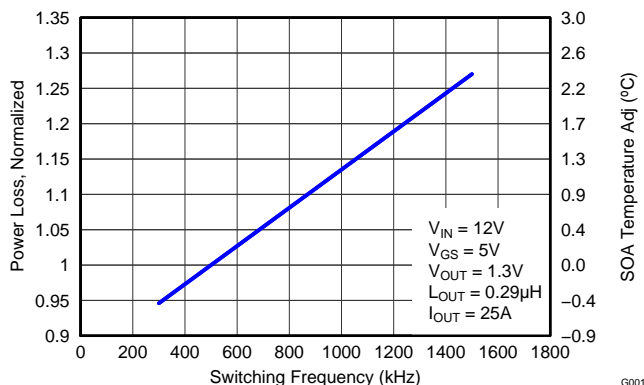

Figure 5. Normalized Power Loss vs Switching Frequency
- Normalized Power Loss for switching frequency ≈ 1.08 (Figure 5)
- SOA adjustment for switching frequency $\approx 0.7^\circ\text{C}$ (Figure 5)
- The placement of the input capacitors relative to VIN and PGND pins of CSD87588N device should have the highest priority during the component placement routine. It is critical to minimize these node lengths. As such, ceramic input capacitors need to be placed as close as possible to the VIN and PGND pins (see Figure 5). The example in Figure 5 uses $1 \times 10\text{nF}$ 0402 25V and $4 \times 10\mu\text{F}$ 1206 25V ceramic capacitors (TDK Part # C3216X5R1C106KT or equivalent). Notice there are ceramic capacitors on both sides of the board with an appropriate amount of vias interconnecting both layers. In terms of priority of placement next to the Power Stage C21, C5, C8, C19, and C18 should follow in order.